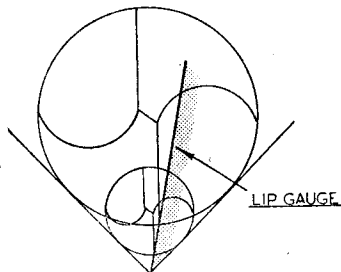

Fig. 11. Lip gauge for maintaining the drill's cutting edge upright
The drill being ground rests in two V-blocks (7) and (8) and can be fed forward against the grinding wheel (9) by means of the tailstock (10). To set the drill, the main pivot is moved away from the wheel by sliding the shaft (3) in the bracket (4), and the correct position of the drill carriage in relation to the pivot axis is then set by closing the caliper jaws (11) and (12) on the shank of the drill used as a setting gauge. After the jig itself has been slid forward to bring the front V-block close to the wheel, the drill is placed in position resting against the lip gauge, illustrated in Fig. 11, and the appliance is then automatically set for grinding the drill correctly.